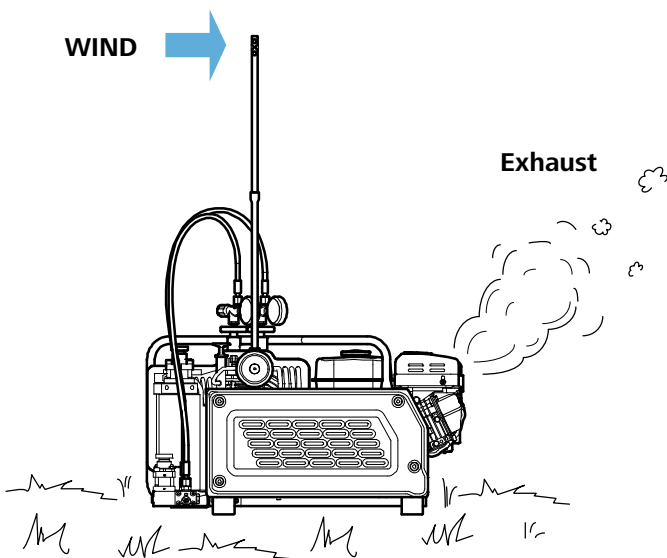

Fig. 7 Outdoor location
- On units with petrol engine it is most important that only clean air be used, position compressor in direction of wind so that exhaust fumes are blown away from the unit. Please use the provided telescopic intake tube. See Fig. 7 and chapter 4.4.2. This arrangement will ensure necessary spacing between exhaust outlet and air inlet.